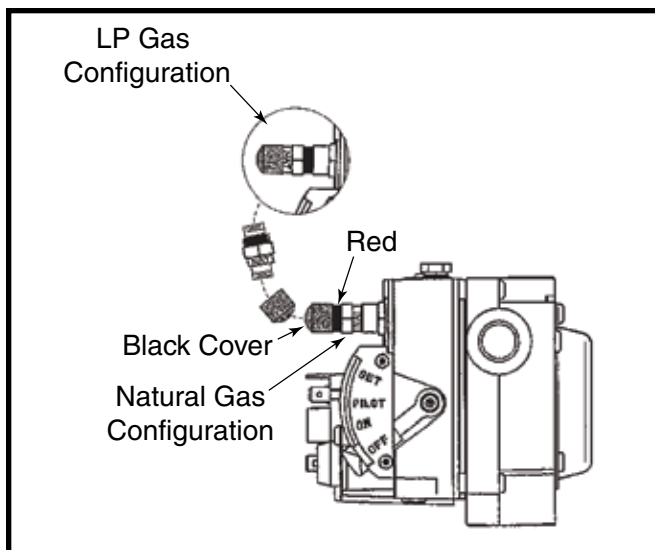

Figure 29. Robertshaw Gas Valve
- a. Remove the black cover and unscrew the converter located on top of the gas valve. See Figure 29 \(page 20\).